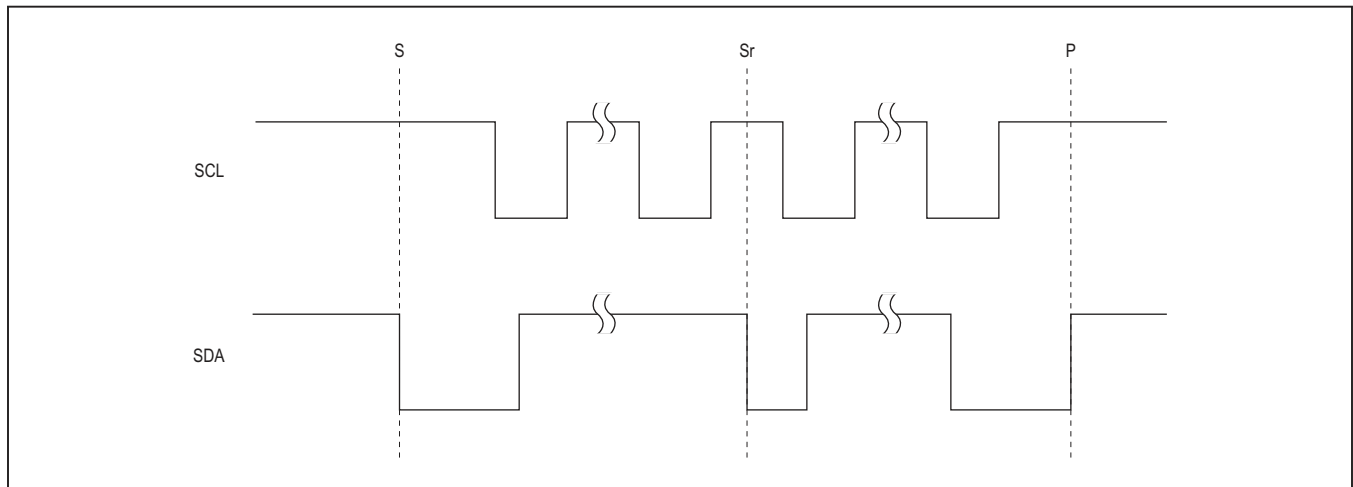

Figure 7. I2C START, STOP, and REPEATED START Conditions
When writing to the MAX14657 using I2C, the master sends a START condition (S) followed by the MAX14657 I2C address. After the address, the master sends the register address of the register that is to be programmed. The master then ends communication by issuing a STOP condition (P) to relinquish control of the bus, or a Repeated START condition (Sr) to communicate to another I2C slave. See Figure 7.